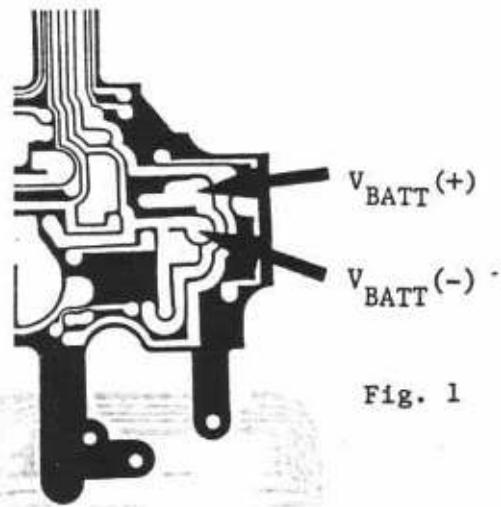

Fig. 1
2. Attach leads to VBATT (+) and (-) and supply 2.1V (Fig. 1).
5. Ground TPL (Pg. 29, Fig. 1).
1. Ground TP-1 (Pg. 29, Fig. 1).